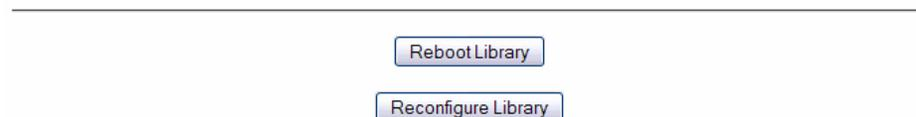

Figure 6-37: Reboot and Reconfigure Buttons on Functions Page
2. At the bottom of the Functions page, click **Reconfigure Library**(Figure 6-37).